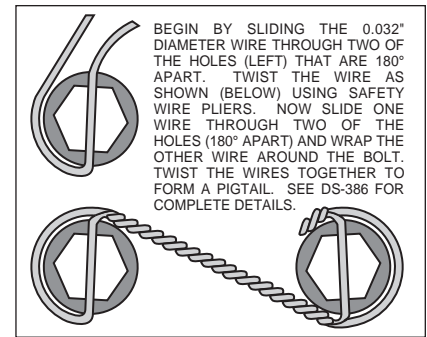

Figure 5. Safety Wire Diagram
- Make sure this is the correct kit to fit the axle housing flange, not necessarily the rear end make. Many times after market manufacturers put a different make of axle housing flange on the stock rear end housing (see Figure 5). Example; Big Ford rear ends with Olds-Pontiac flanges, therefore, an Olds-Pontiac rear disc brake kit would be the correct kit to order. Also, shock clearance may be a problem. They may have to be modified and/or relocated to clear the Wilwood kit after final assembly.
- With the larger I.D. side of the rotor (3) facing away from the hat (2), bolt rotor (3) to hat (2) through the backside of the rotor using washers (4) and bolts (5). Using an alternating sequence, apply red *Loctite*® 271 to the threads and torque bolts to 155 **in-lb**. For an added measure of security, the bolts may be safety wired using standard 0.032 inch diameter stainless steel safety wire as shown in Figure 5.. Please refer to Wilwood's data sheet DS-386 for complete safety wire installation instructions.